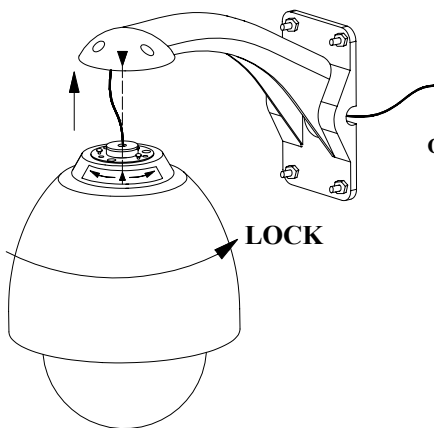

Figure 8
- 5) Aiming the "MARK" of the bracket to the "MARK" of the flange, push the dome upward to the end and rotate it with the direction of the arrow until it is clicked and tightened. ( Figure 8 ) .